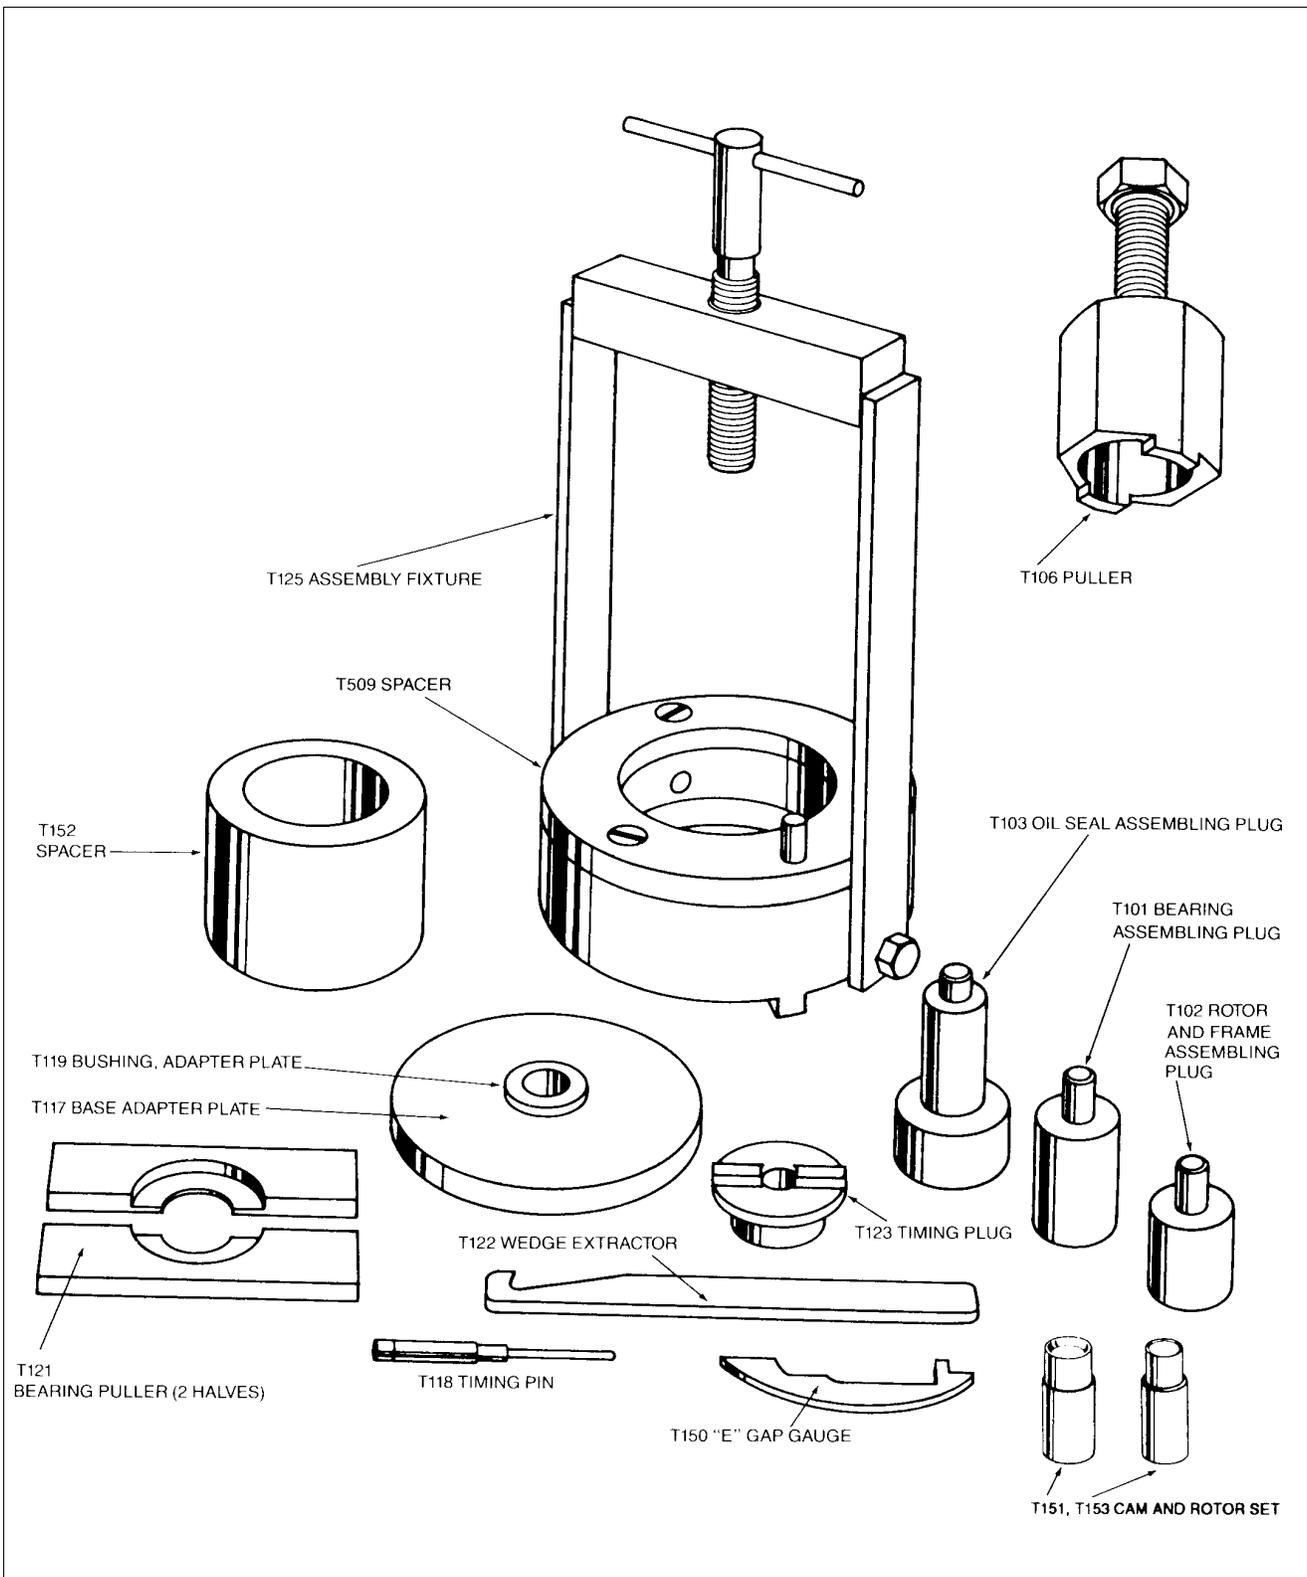

Figure 74-7. Slick T-100 Assembly and Timing Tool Kit
D. Disassembly (see Figures 74-7 and 74-8)
Use of the Slick T - 100 Assembly and Timing Kit (Figure 74-7) is strongly recommended. The tools contained in this kit will greatly facilitate magneto disassembly/assembly and help prevent damage to parts.